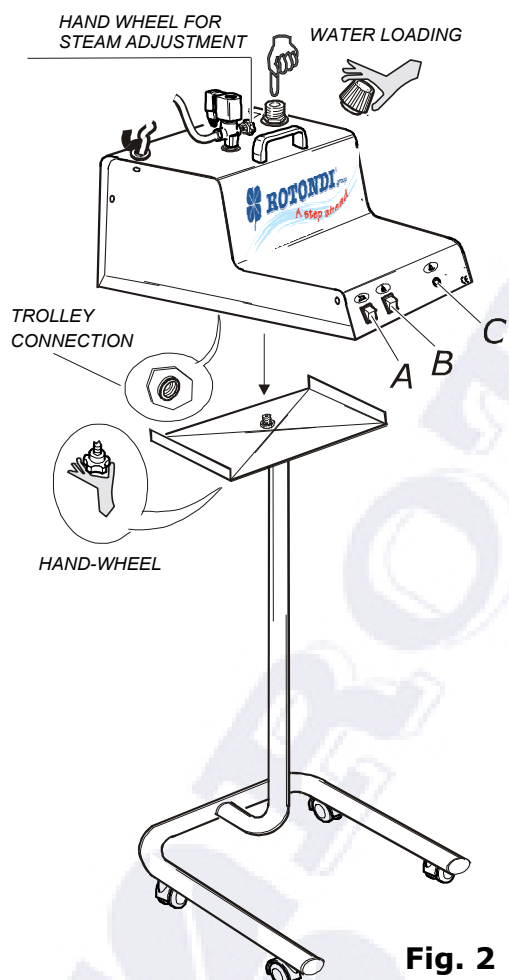
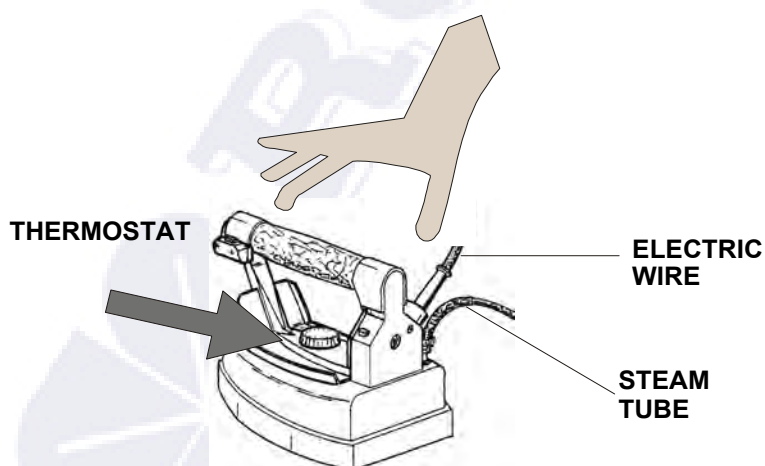
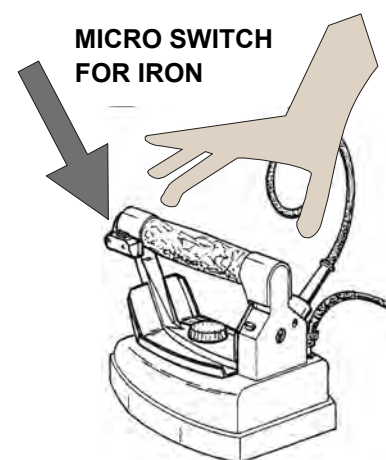

Fig. 2
Fig. 3
Fig. 4
5. For MINI 3 supplied with trolley (optional): screw the trolley knob on the proper connection under the base of the machine (fig. 2).
1. Unscrew the security valve plug (fig. 1), fill the boiler with water (fig. 2) till overflow or at pleasure. Take the plug by the plastic part and screw it again: do not tighten too much or its gasket might get spoilt.
3. Switch on the boiler (fig. 2 B), the iron (fig. 2 A) and adjust the thermostat (fig. 3) on "cotton".
4. Wait for the boiler lamp to switch off (fig. 2 C). At this point seize the iron by cork handle and press red button 3 or 4 times (fig. 4), so that steam comes out: this operation must be carried out in order to heat up the tubes which take steam to the iron. In this way you prevent also the falling of small drops of water on garments. To adjust steam flow, you must work on the hand-wheel for steam adjustment (fig. 2). During ironing operation, the boiler lamp switches on and off (fig. 2 C).
1. Run the iron on garments, pressing the iron microswitch (fig. 4) for steam. For a better result, set the thermostat (fig. 3) on "cotton".
4. For dry ironing it is possible to adjust the thermostat (fig. 3) on different positions according to the type of fabric (look at garment label). For steam ironing set the thermostat on "cotton" or "linen".
5. If you work on a non-vacuum board, some circular water spots might form because of condensed steam. To get round this problem, put a felt under the usual padding and adjust the hand-wheel for steam regulation on minimum (fig. 2).
During the ironing, if steam flow decreases considerably and then ends definitely, it means that there is no more water in the boiler. So MINI 3 has to be switched off by disconnecting the plug; rotate the valve plug (fig. 1) of 360° and wait for steam to go out completely. Unscrew the valve plug with care and wait some minutes. Then fill the boiler with water (fig. 2). Screw the valve plug again, connect the plug and wait for the boiler lamp to switch off (fig. 2 C). Now the iron is ready again. **ATTENTION:** MINI 3 must always be on horizontal position.
3. steam tube and iron cable once they seem spoilt (fig. 3).